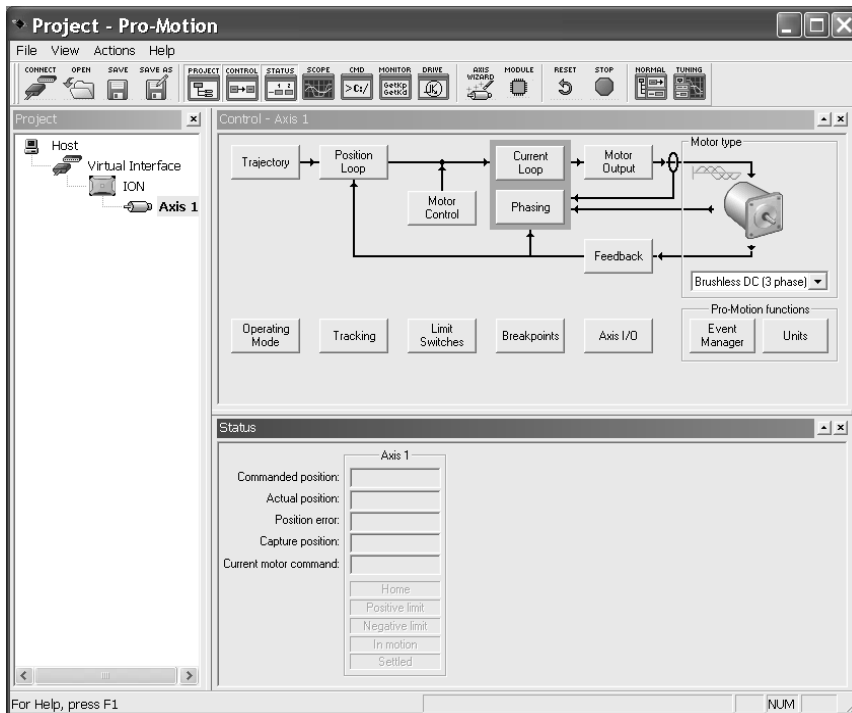

Figure 3-1:
- If the connection is made, Pro-Motion's Normal View is displayed (Figure 3-1), and Pro-Motion is ready for use.
- If Pro-Motion finds the motion board or ION module, it will make the connection and open in Normal View (Figure 3-1) with the model number of the connected motor and its axes displayed in the Project window.
- The Normal view (View/Normal View) contains the Project, Control, and Status windows (Figure 3-1). This is the default view when Pro-Motion is first opened.